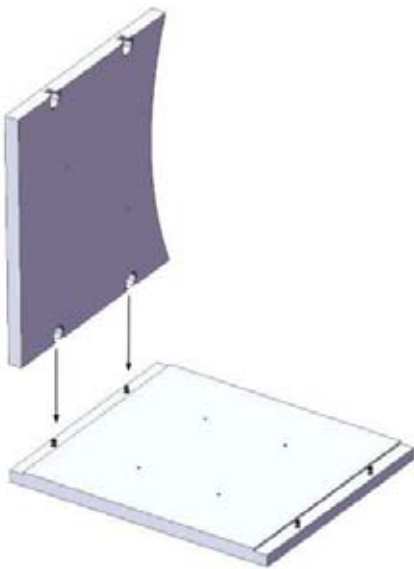
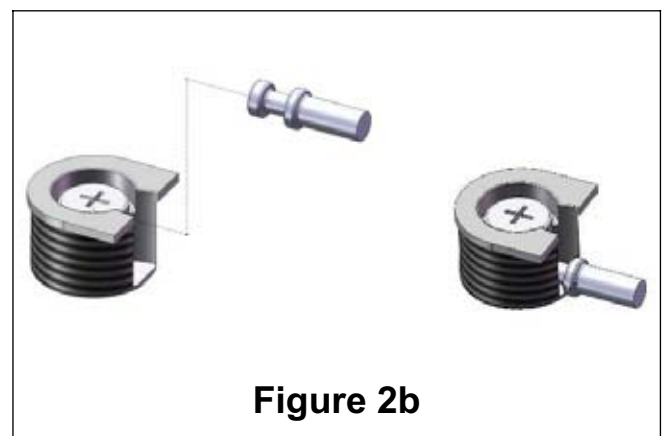
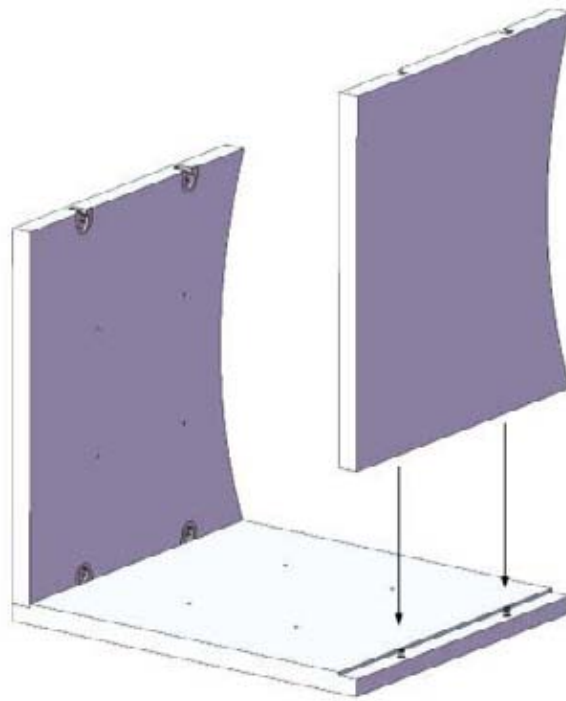

Figure 2a
Figure 2b
Figure 3
3. Set the first side panel into the dado (or groove) on the left side of the top panel (**Figure 2a**). Slide the connector studs into the CAM fittings, which have been factory installed. Tighten the CAM fittings around the connector studs by turning clockwise 90 degrees (**Figure 2b**). Repeat for the other side panel (**Figure 3 on pg 4**).